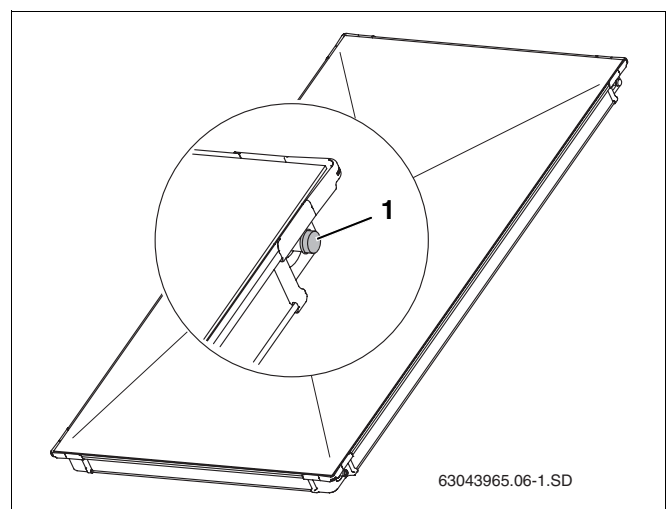

Fig. 5 Plastic caps on collector connections
- ▶ Do not remove the plastic caps (Fig. 5, **Item 1**) until immediately prior to installation.